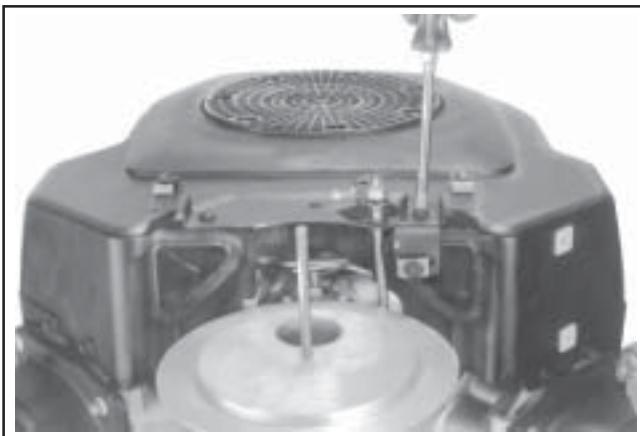

Figure 9-15. Removing Control Panel.
4. Remove the panel from the blower housing. See Figure 9-15.